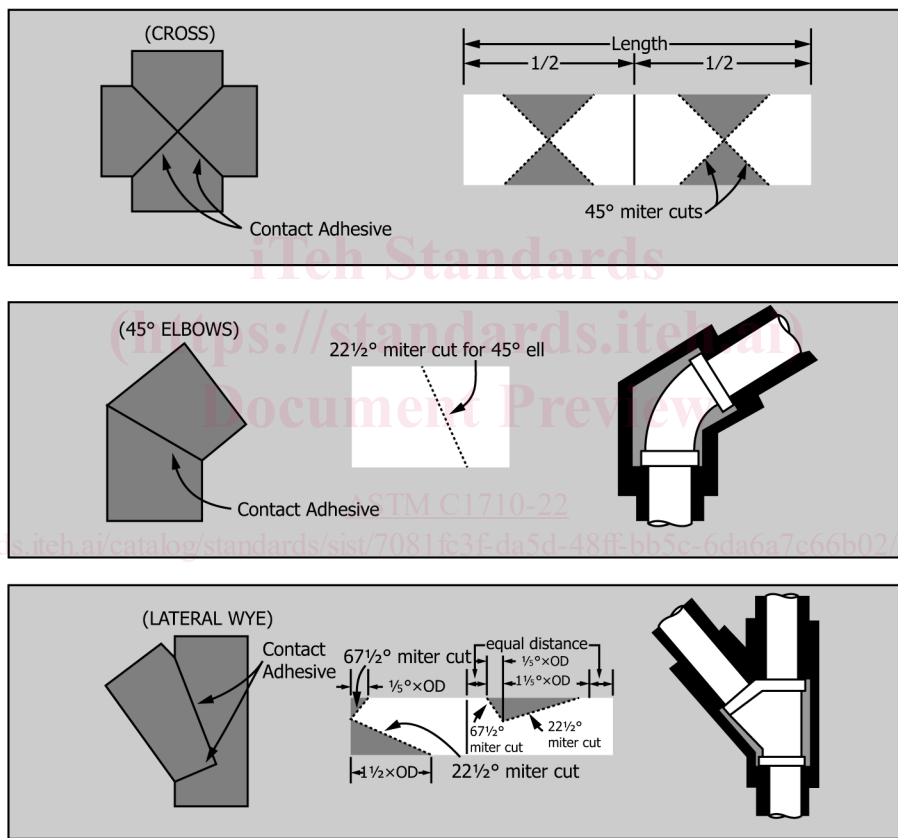

FIG. 5 Examples of Various Pipe Fittings
10.2 *Fittings*—There are many types of fittings; pipe fittings, screwed fittings etc. See Fig. 5.